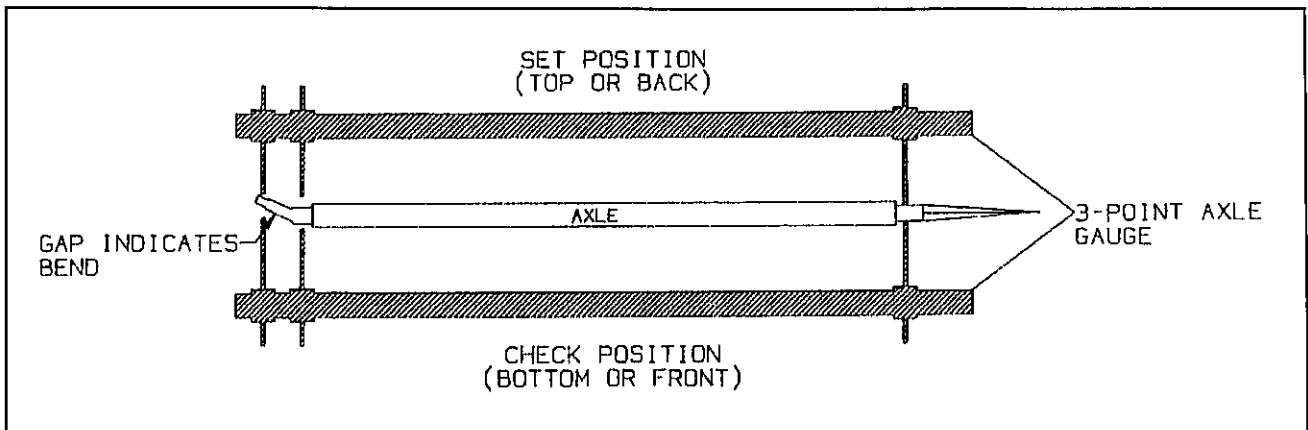

Fig. 4-8 Checking Axle for Bend
b. Place a 3-point axle gauge against the front side of the axle, and adjust each axle gauge point to the axle. (Double point end against the inner and outer wheel bearing surfaces of the spindle being checked and the other point on the inner bearing surface on the other spindle)(see Figure 4-8).
c. Move the axle gauge and place against the back side of the axle. If either of the points of double point end fails to touch the axle surface, a bent spindle is evident. A point gap of .015" or more is considered excessive tire "toe" and the axle must be replaced (see Figure 4-8).